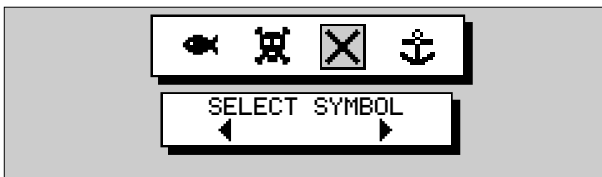

Figure 3-25: Waypoint Symbol Selection
3. To edit the symbol, press the SYMBOL soft key. Use the soft keys, shown in *Figure 3-25*, to highlight the required symbol, then press **ENTER** to confirm the selection. Press **CLEAR** to return to the default soft keys.